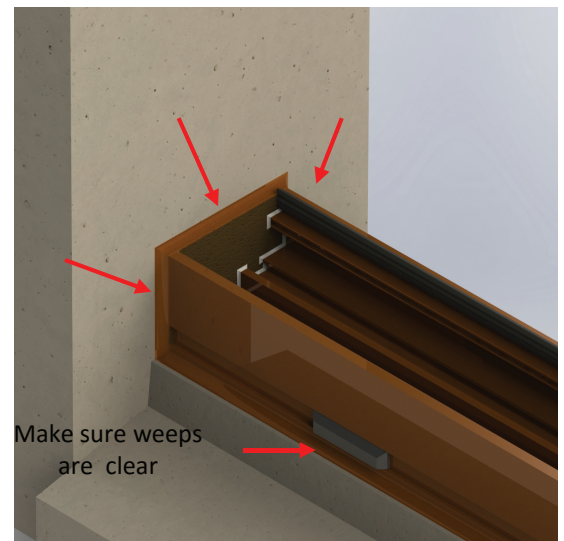

Fig. 9
- D. Apply sealant at the end of the end dams to the opening and along the bottom edge of sub-sill to opening. Make sure not to block weeps with sealant. (Fig. 9)